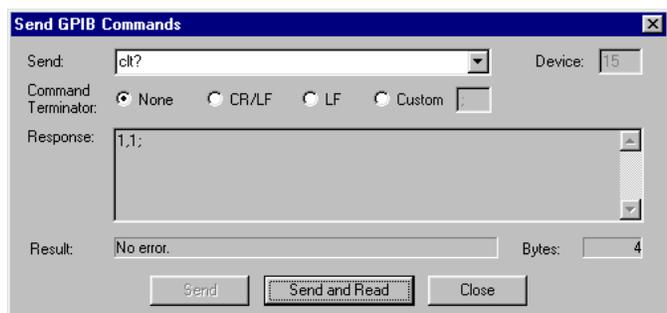

Figure 4. Verifying that CLTC is the low-temperature control mode
3. If the system has switched to CLTC, the **Response** area should now display "1,1" (as is shown in Figure 4).